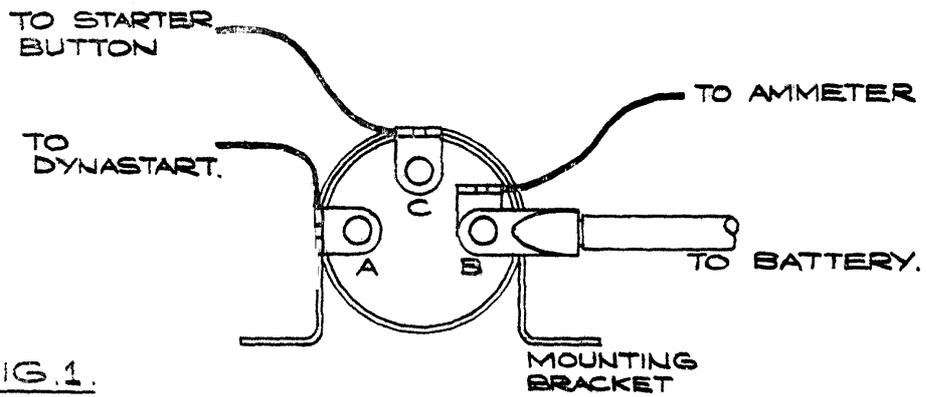

FIG. 1.
1. Referring to fig 1, it will be seen that there are three connections on the Solenoid A, B and C.